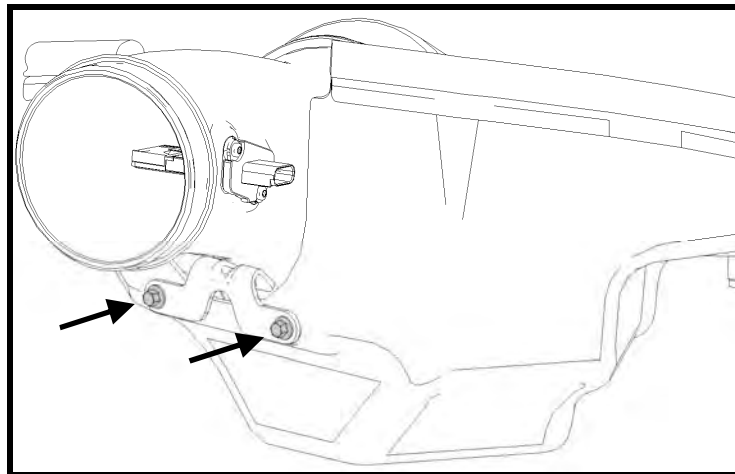

Fig. 8
- STEP 5:** Assemble the air tube and filter onto airbox housing using two bolts (N605771) and torque to 10 Nm (88 lb in) (See Fig. 8).